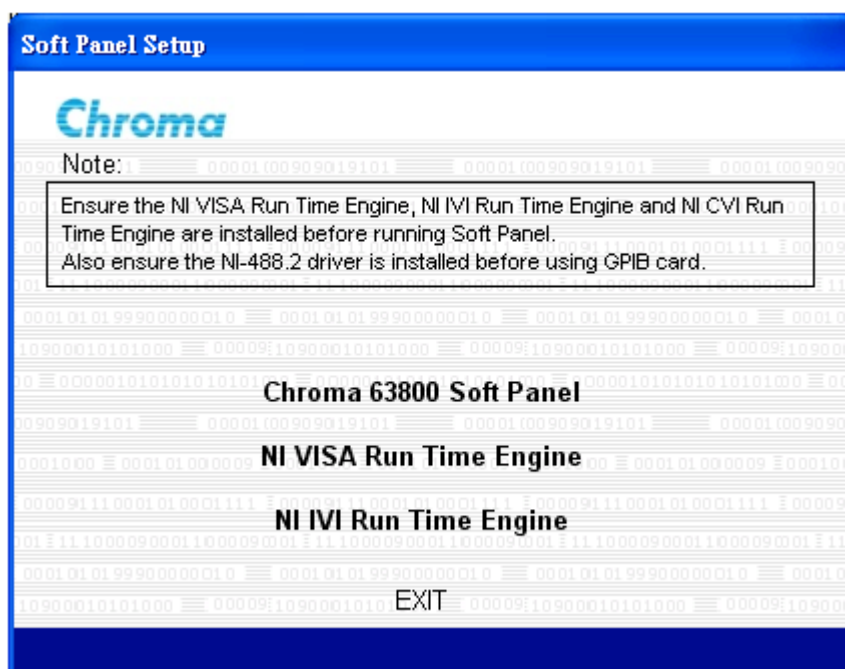

Figure 2-2 Soft Panel Setup Program Screen
1. After placing CD to drive, `Setup.exe` will be auto run and displayed as Figure 2-2 Setup Program Screen. If the program doesn't be auto run, click for running by manual
1. Install NI VISA 4.1 driver. Double click the word of “**NI VISA Run Time Engine**” on *Figure 2-2 Setup Program Screen* and after initialized by the program then can enter *Figure 2-9 Installation Screen*.
5. Install NI IVI Run Time Engine driver. Click the word of “NI IVI Run Time Engine” on Figure 2-2 then can enter the following screen to start to install this driver and next to click **Next** to go on installing.